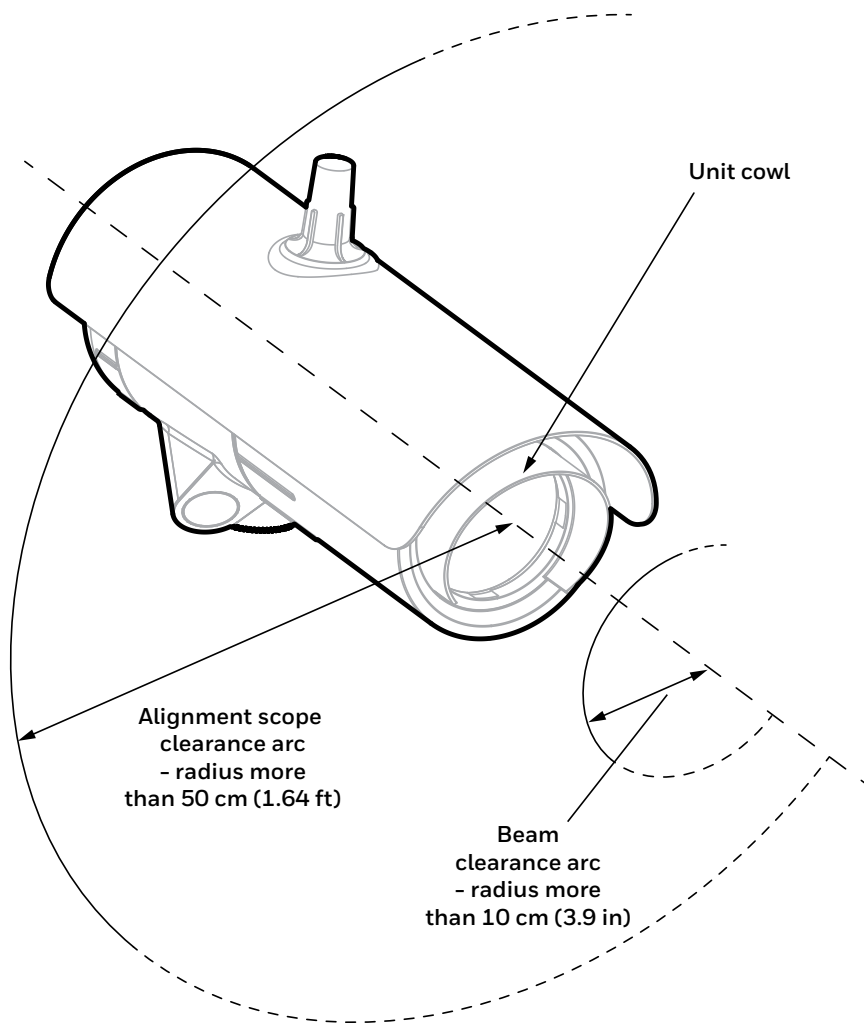

Figure 4. Beam clearance arc
3. Insert the pivot to the Mount Plate Adaptor for Universal Mounting Bracket flange (Figure 4).